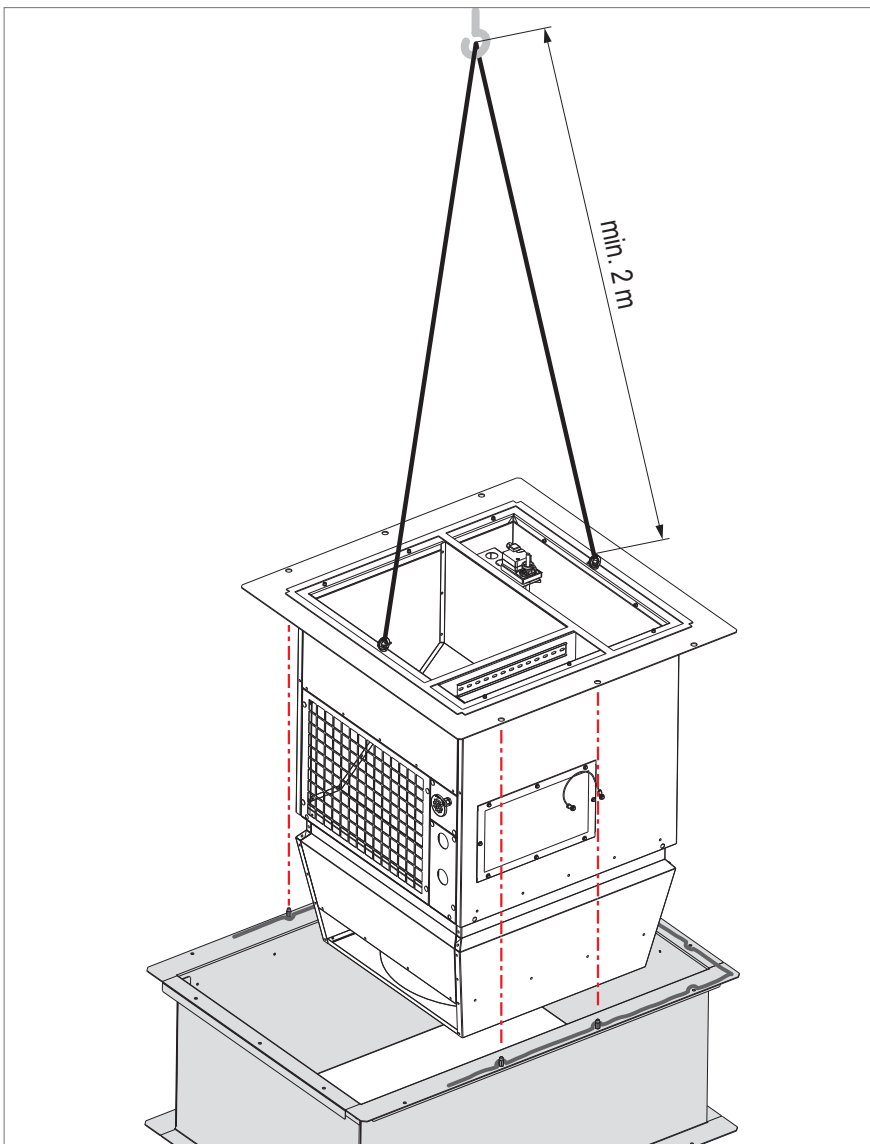

Fig. 22: Hanging the below-roof unit
- Heed the minimum length of the lifting ropes (see Fig. 22).